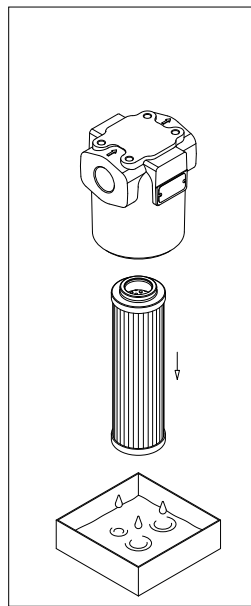

fig. 22
- (Fig. 22) Pull the filter element out. Remove all the seal from the bowl and the filter element and prepare the spare parts referring to the list in paragraph 12